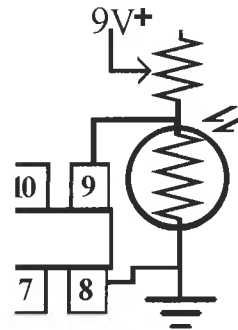

Figure L35-9
11. Consider the schematic presented in Figure L35-9.